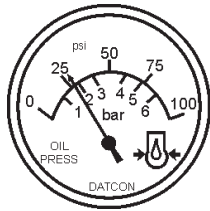

Figure 49. Oil Pressure Gauge
14. The engine oil pressure gauge (Figure 49) will indicate the oil pressure (kg/ cm2) of the engine. Under normal operating conditions the oil pressure is approximately